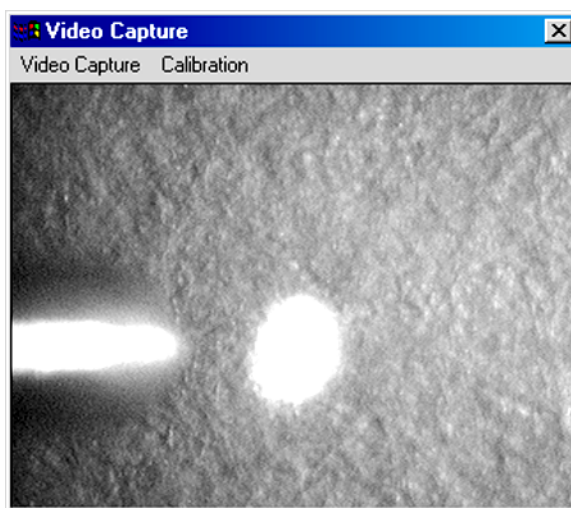

Figure 141 Properly aligned laser spot
- 9 Select the **Play** (Start) button  to turn on the laser. If the laser optics are properly aligned, the dimple should be in the center of the laser spot. See the example in Figure 141. If the laser is not properly centered on the dimple, the laser spot must be repositioned.
- Once adjusted, the laser position should resemble Figure 141 from the previous step in this procedure.